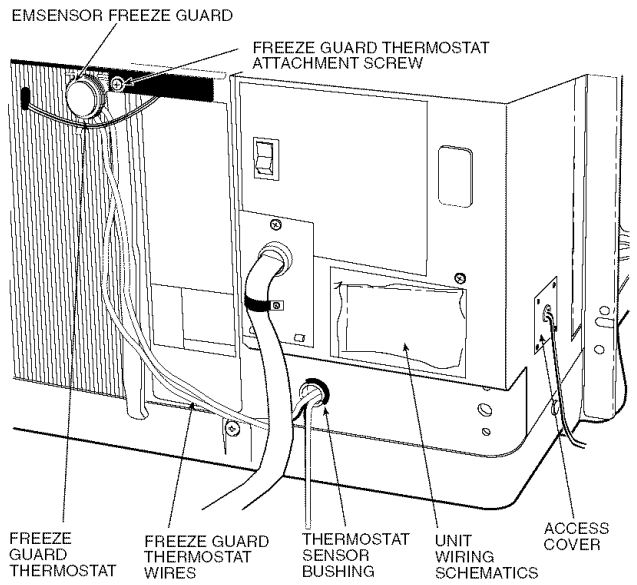

Fig. 8 — Location of Freeze Guard Thermostat and Wires Through Bushing on Control Box
Step 8 — Push the Freeze Guard thermostat wires through the thermostat sensor bushing located on lower left corner of control box. See Fig. 8.
Step 17 — Remove screw from upper partition on unit. See Fig. 8. Install Freeze Guard thermostat with screw.
Step 18 — Fold and insert EM and unit schematics into plastic bag on front of control box for easy access. See Fig. 8.